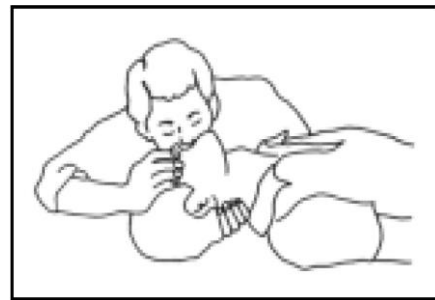

Figure 2: Resuscitation detail – 2.
- In case the victim doesn't breath, start immediately the artificial respiration (figure 2): bend the head, close the nostrils, attach the mouth to the victim one's and do 4 quick mouth-to-mouth respirations